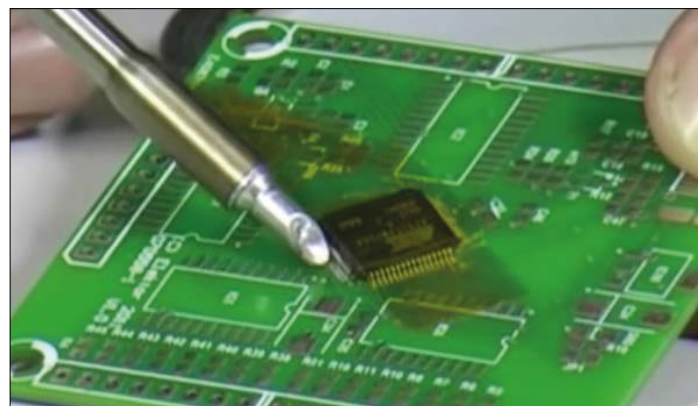

Figure 3. A mini spoon soldering cartridge.
**A** Drag soldering is easy-peasy to experts, and frustrating to newcomers. Preventing bridging in pins is quite challenging, and some components may (literally) get fried if we're not quick enough. The tip of a mini spoon can ease the job (e.g. JBC's C245-931 cartridge), since you'll be able to "load" the tip with solder, and release it gradually. You may need to experiment with the angle (as shown in Figure 3), gently turning the tip as the solder is transferred to the pins. To keep the solder fluid, apply flux generously and make sure that the tip is not oxidized. Besides, lead-free solder has a different viscosity, and may be more difficult for beginners to handle.